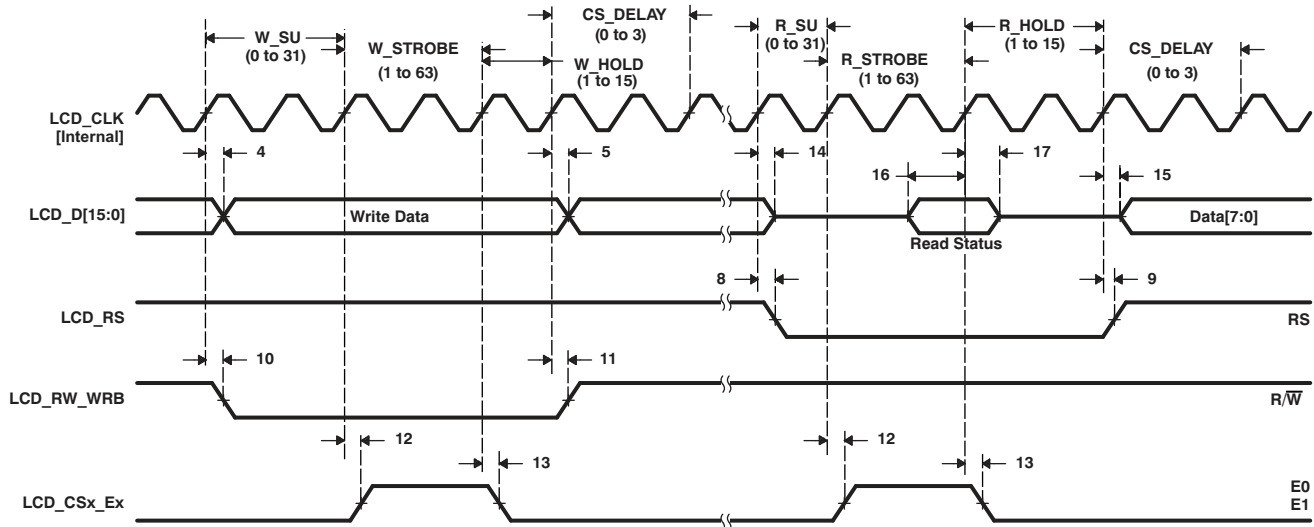
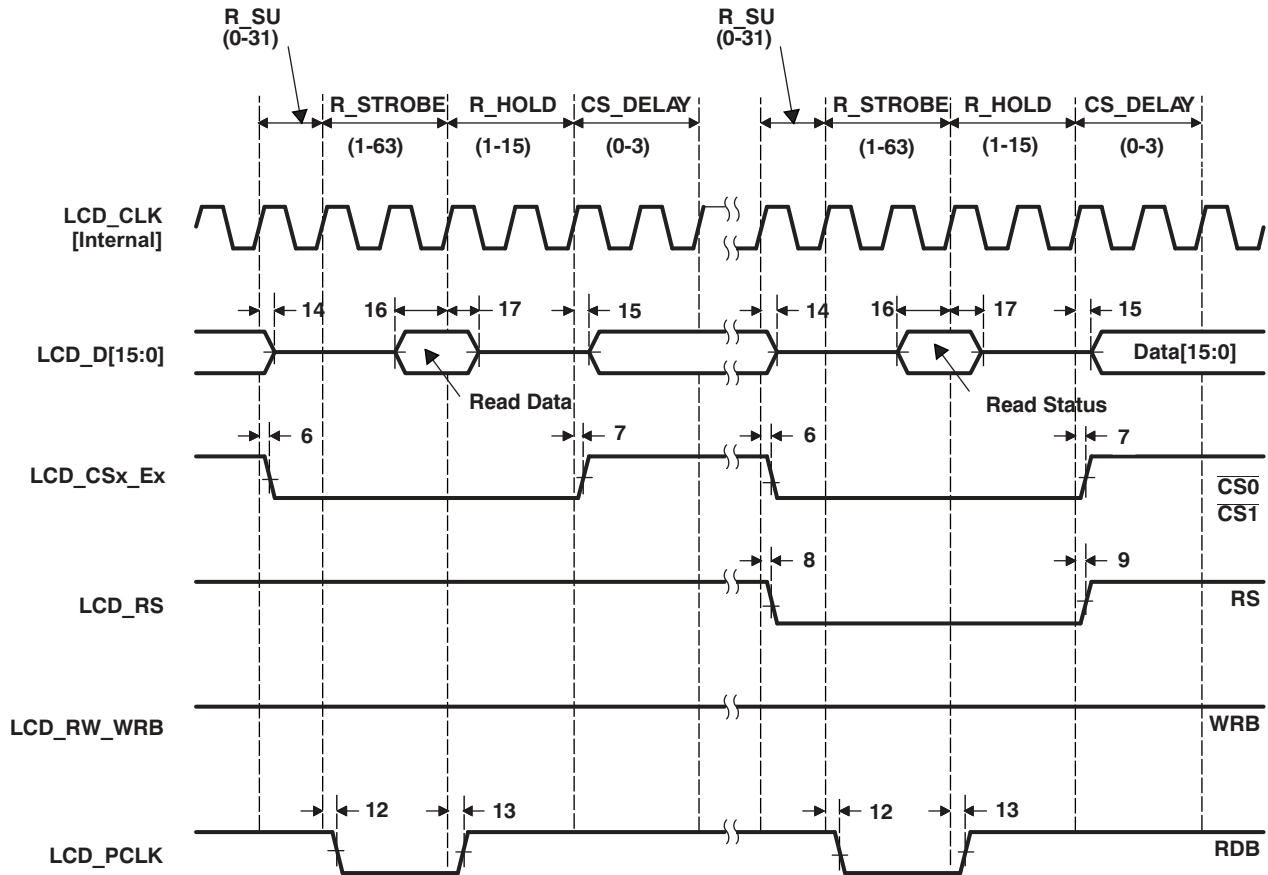

Figure 6-30. Character Display HD44780 Write
Figure 6-37. Micro-Interface Graphic Display 8080 Status
**Table 6-40. Timing Requirements for LCD LIDD Mode(1) (see Figure 6-30 through Figure 6-37)**
(1) Over operating free-air temperature range (unless otherwise noted)
**Table 6-41. Switching Characteristics Over Recommended Operating Conditions for LCD LIDD Mode (see Figure 6-30 through Figure 6-37)**